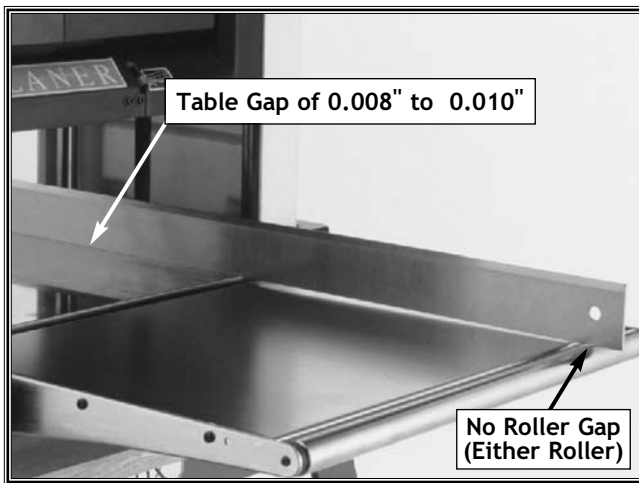

Figure 24. Check extension tables with a straightedge. The rollers on the ends of the tables should be even with the main table.
2. Place a good quality, steel straightedge across both extension table rollers and the main table. The straightedge should be perfectly flat across the main table with a clearance of 0.008" to 0.010" measured with a feeler gauge, and the straight edge should evenly touch the rollers on the ends of the extension tables as shown in **Figure 24**.